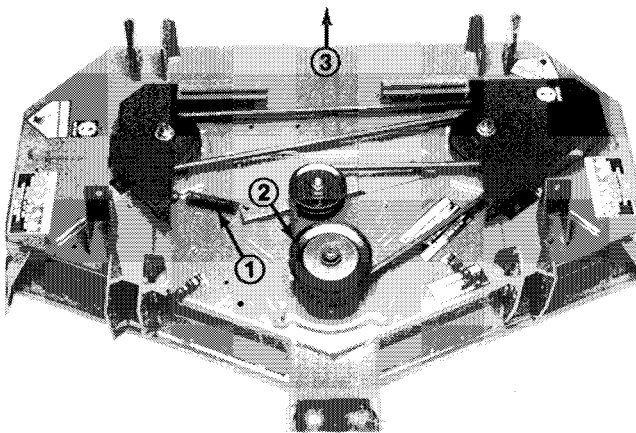

Figure 16
3. Remove nut securing spring anchor to capscrew in housing (Fig. 16). Lift anchor off capscrew and allow belt to relax. Remove worn belt.